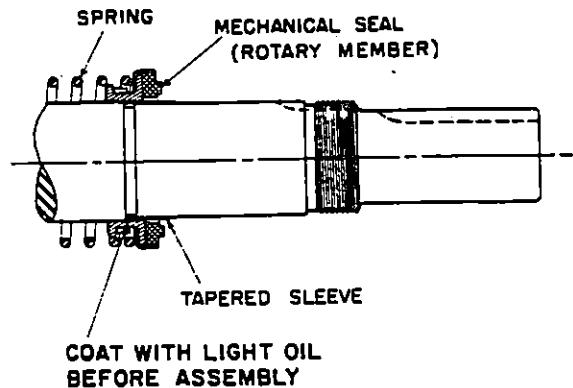

FIGURE 3
1. **Installing New Seal:** See Figure 3. The seal is simple to install and good performance will result if care is taken in its installation.
Place the tapered sleeve (furnished with replacement seals) on the shaft as far as it will go. Thin end must be toward end of shaft. See Figure 3. Coat the inside of the rotary member and the outside of the tapered sleeve with light oil. Be sure the shaft is free of nicks and burrs. Place the spring and rotary member on the shaft, spring first, over the sleeve and against the hub of the rotor. *Remove the tapered sleeve.*